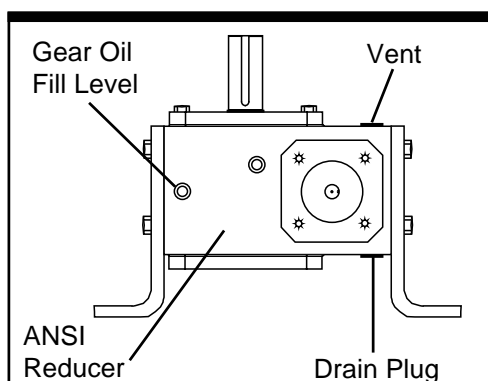

Figure 4-1. Gear Oil Fill Level
► Check the level of gear oil before draining (see Figure 4-1). If the level is low, check the reducer's input and output shaft seals for leaks.